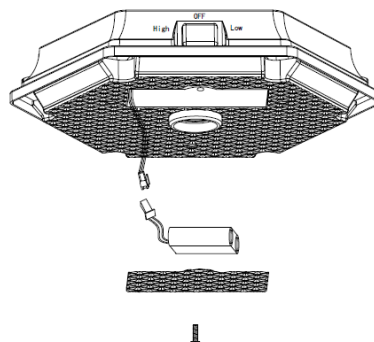

Fig. 4
3. Release the 3 screws on the silver reflector and remove the old batteries (Fig. 4). Make sure the new batteries are high quality –1 x Li-ion Battery Pack (3.2 Volt / 3,000 mAh) (Fig. 8).